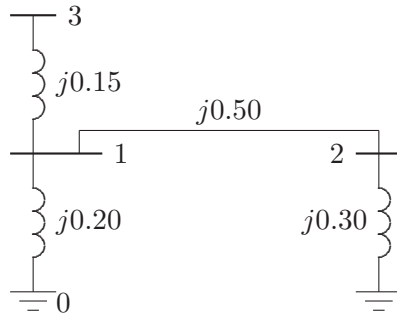

FIGURE 76
9.6. Using the method of building algorithm find the bus impedance matrix for the network shown in Figure 76.